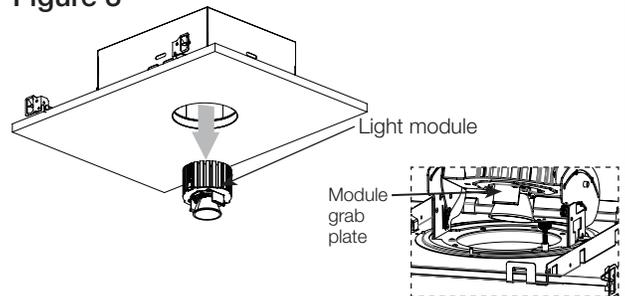

Figure 4
- c. Disconnect module from connector. See **Figure 4** for connector diagram.